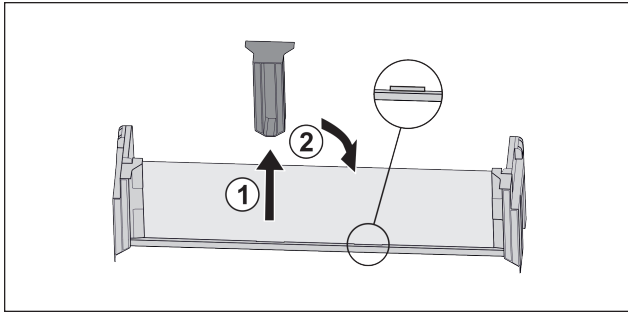

Fig. 39
- ▶ Pull off the middle holder Fig. 39 (1).
- ▶ Insert the middle holder in the second position Fig. 39 (2).